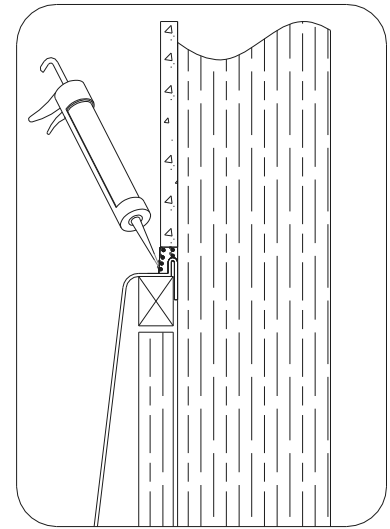

Fig8
7. Make a silicon bead as in **FIG8** all the way around the bath up stand where the liner will be positioned to give a water tight seal between the bath up stand and the lining when fitted into place. Make sure the silicon is generous were the GIB meets the bath up stand.